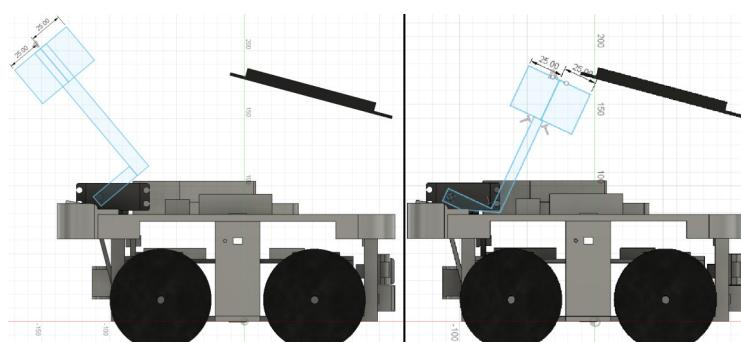

Figure 12: Sketch of the rough dimension of the arm
- Sketched the rough dimensions of the arm that comply with the height restrictions of 25 cm (see Fig. 12)
As shown in Fig. 12 the arm reaches in the current rough sketch a maximum height of 24 cm while picking up victims, while driving this height is reduced to only 21.5 cm.